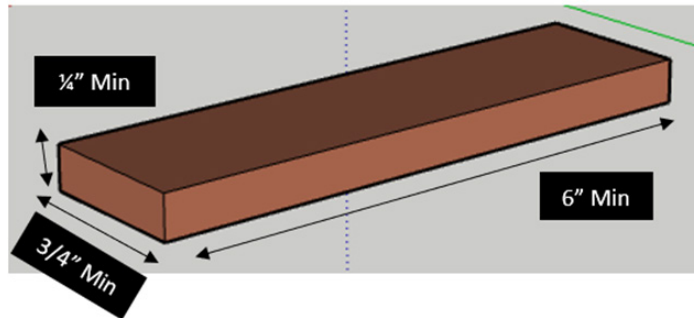

Figure 12: Minimum Dimension for Planing.
*Please consult Figures 12 and 13 to verify that your workpiece dimensions are in compliance with the specified minimum requirements before commencing machine operations. This precautionary measure is vital for maintaining operational safety and the integrity of both the workpiece and the machine.*